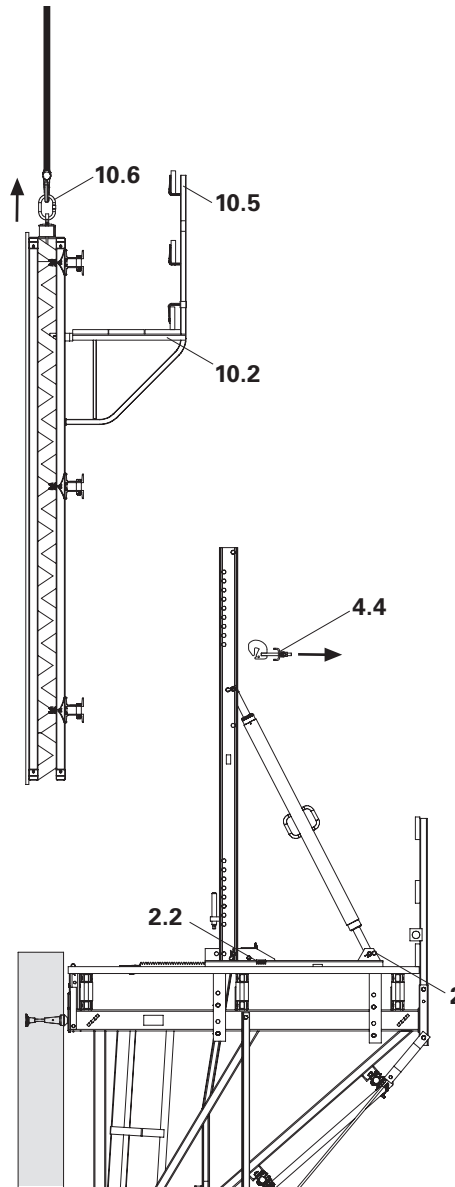

Fig. B2.10
1. Retract carriage (2) and secure with wedge (2.2), see B4.1. Brace strongbacks laterally.
4. Lift formwork and remove (e.g. stockyard). (Fig. B2.10)